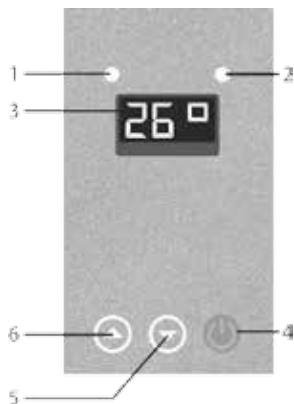

Fig. 15
1. During the first water heater start-up or after long-term non-use, fill the device with water by opening the cut-off tap at cold water supply line, and make sure that there is a steady cold water flow at water outlet at the consumption point, after that switch on the device power supply, indicating lamp 1 at the control panel (see Fig.15) starts blinking.
2. To switch on the device, press «» button at the control panel, power supply indicator 1 (see Fig.15) will be constantly lit up.
4. Water flow is controlled by the tap at water inlet to or outlet from water heater. When there is water flow, and water pressure is not less than 0.1 MPa, heating is switched on automatically, and indicating lamp 2 located at the control panel lights up (see Fig.15).
To switch off the water heater, simply close water flow at the inlet to or outlet from the device; electronic flow sensor automatically opens the circuit of power supply to heating element, and indicating lamp 2 located at the control panel goes down (see Fig.15), and power supply indicator 1 starts blinking. For the subsequent switching on of heating it is enough to reopen the water supplying or water draining tap.